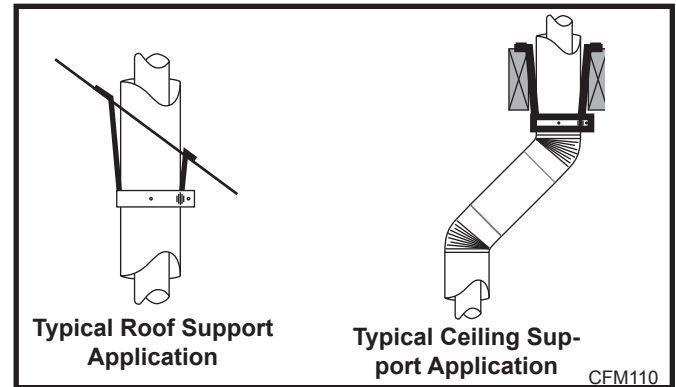
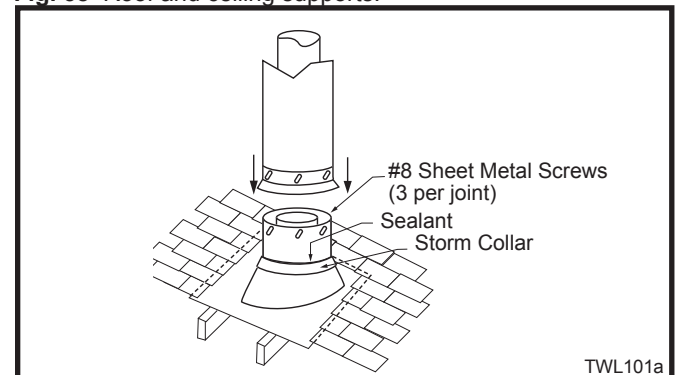

Fig. 58 Roof and ceiling supports.
Fig. 59 Roof flashing.
- 7DVCS must be used to support offsets. (Fig. 58) This application will require that you first determine the roof pitch and use the appropriate starter kit. (Refer to Venting Components List)
7. Install roof support (Fig. 58) and roof flashing making sure upper flange of flashing is below the shingles. (Fig. 59)
8. Install appropriate pipe sections until the venting is above the flashing. (Fig. 58)
The enlarged ends of the vent section always face downward. (Fig. 59)